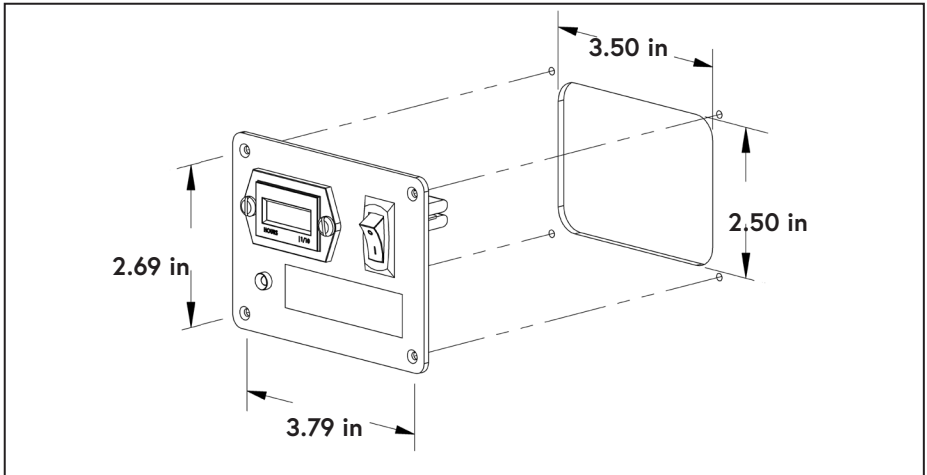

Figure 35 — Interface Panel mounting dimensions
- Install the Interface Panel in a suitable location (Figure 35).